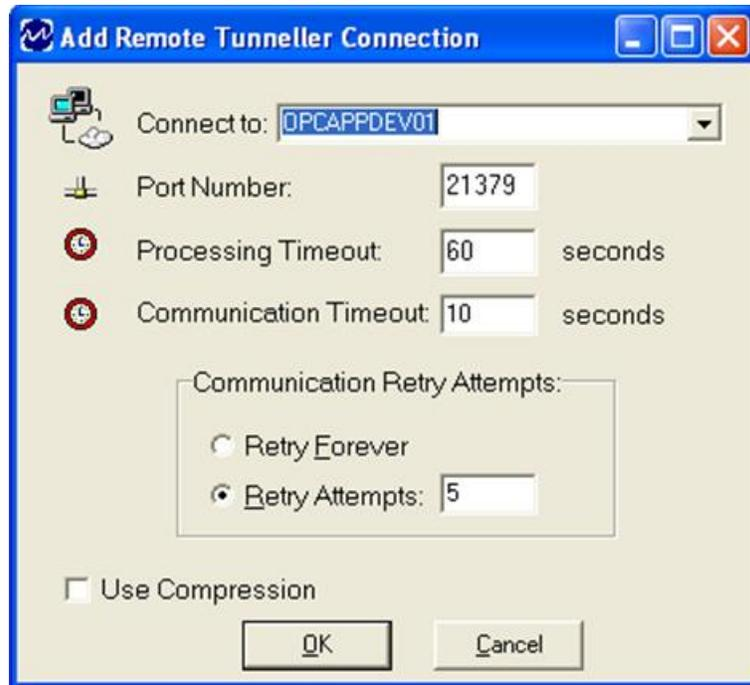

Figure 3 - Add Remote Tunneller Connection Window
2. The **Add Remote Tunneller Connection** window (Figure 3) appears.
The **Add Remote Tunneller Connection** window (Figure 3) contains all of the information necessary to set up a Tunneller CSC connection to a remote PC with the Tunneller SSC installed. The OPC server to which Tunneller will connect must reside on the same machine as the remote Tunneller install.
Table 2 describes the fields in the **Add Remote Tunneller Connection** window (Figure 3).